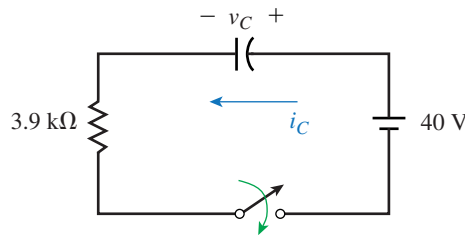

FIGURE 11–53 $C = 10$ μ F, $V_0 = 0$ V.
- The capacitor of Figure 11–2 is uncharged at the instant the switch is closed. If $E = 80$ V, $C = 10$ μ F, and $i_C(0^+) = 20$ mA, determine the equations for v_C and i_C .